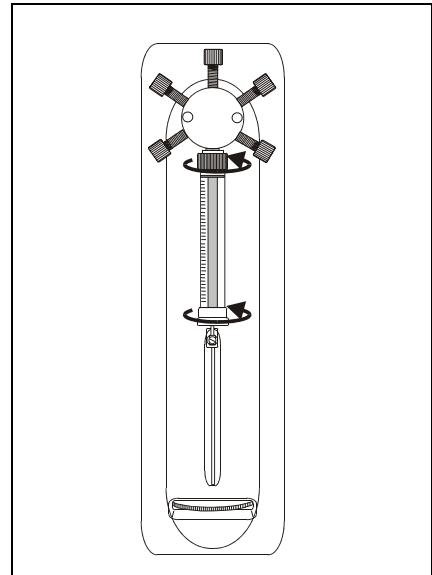

Figure 4-1. Tightening the Syringe
- Make sure the syringe is tightened. To tighten, hold the syringe at the top and bottom fittings and turn it clockwise (as viewed from the top) (see Figure 4-1). Tighten fingertight only; do not overtighten.